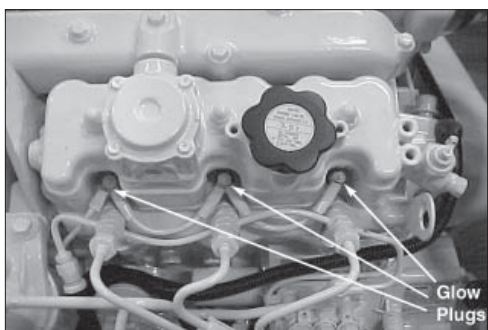

Figure 19: Glow plugs.
2. To check the glow plugs, loosen the current carrying wire between the plus-poles of the glow plugs (Figure 19). Connect a D.C. test bulb between the plus-pole of the battery and the plus-pole of the glow plug. If the bulb lights up, the glow plug is functioning properly.